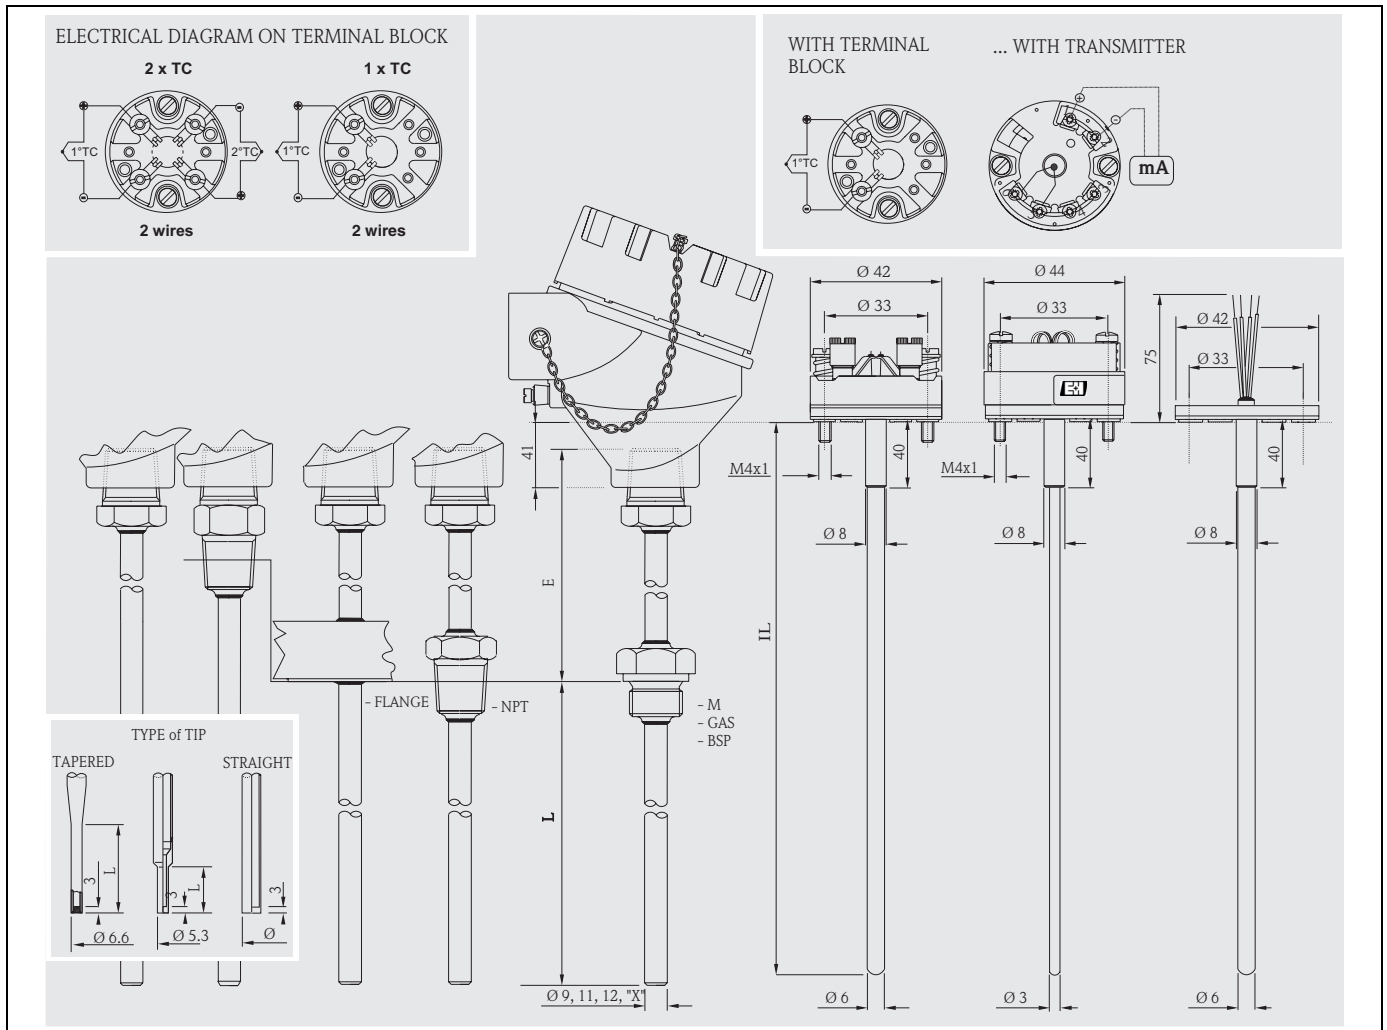

Fig. 6: Functional components, standard electrical diagrams (ceramic terminal block), Tip on the end of the probe
For replacement, the length of the insert (IL) must be chosen in compliance with the immersion length (L) of the thermowell (see fig. 6). If spare parts are required, refer to the following table.
With regards to the thermowell, the surface roughness (Ra) of the wetted parts is 0.8 mm, while the various kinds of tips (reduced or tapered) are described in fig. 6;